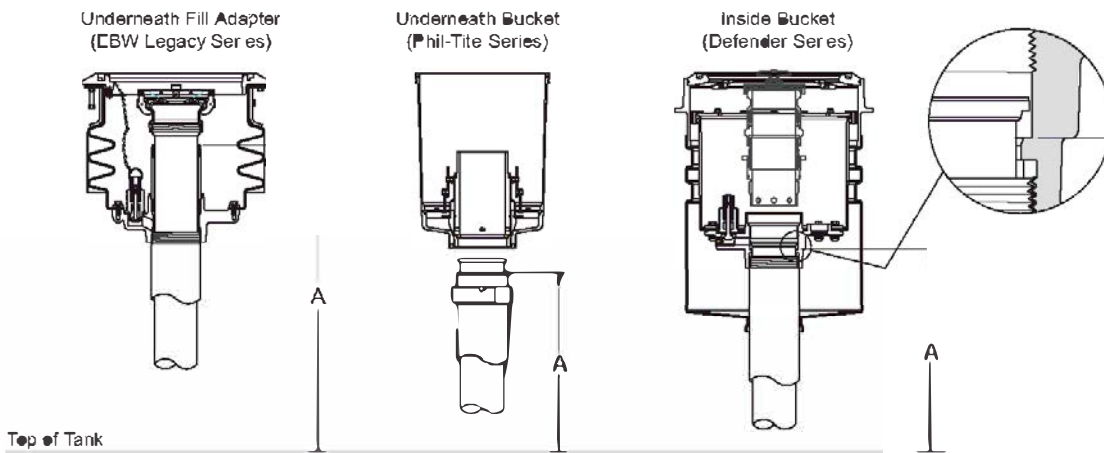

Figure 2: Installation Dimensions per Spill Container
- A** • Distance from the seat surface of the upper drop tube to the bottom of the underground storage tank. The seat surface will vary depending on the type of installation (see Figure 2).